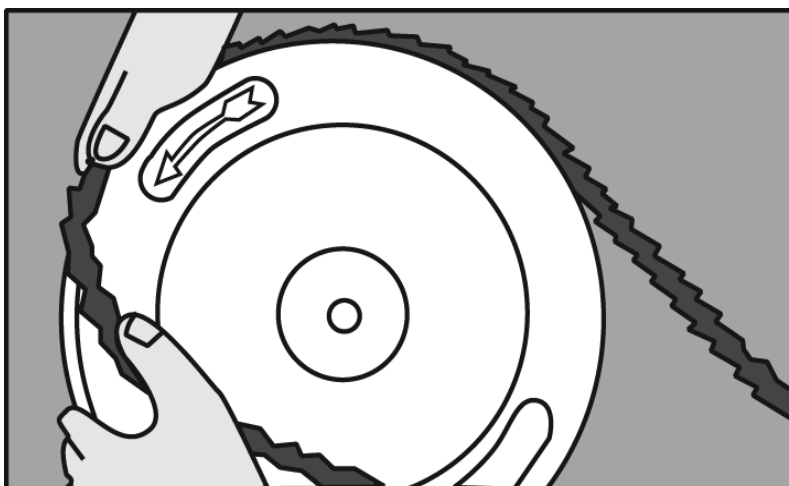

Figure 16
7. Fit belt into nearest groove of the smallest pulley and roll / push belt onto larger pulley using a round bar or equivalent rounded tool (no sharp edges that could damage pulley or belt during belt fitting stage) – refer to Fig. 16. The belt may seem very tight, this is normal. DO NOT JOG MOTOR.